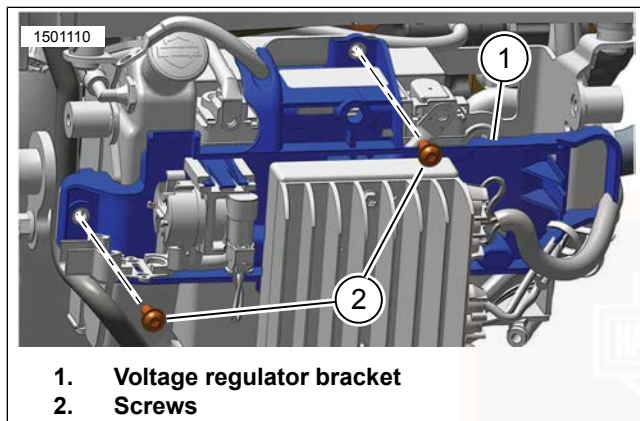

Figure 79. Voltage Regulator Bracket Screws
5. See Figure 79. Remove voltage regulator bracket screws (2).
2. See Figure 79. Position voltage regulator bracket (1).
3. Install voltage regulator bracket screws (2). Tighten.